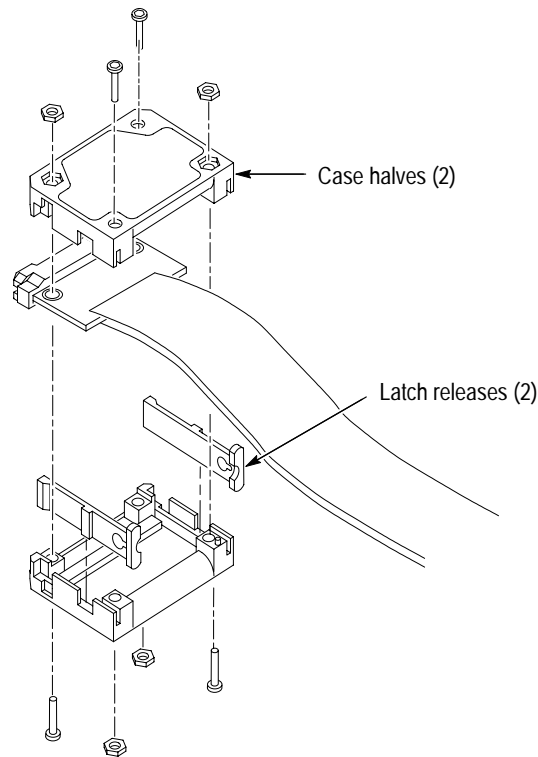

Figure 14: Reattaching the latch releases and case halves
1. Position a latch release on each side of the case half. See Figure 14.